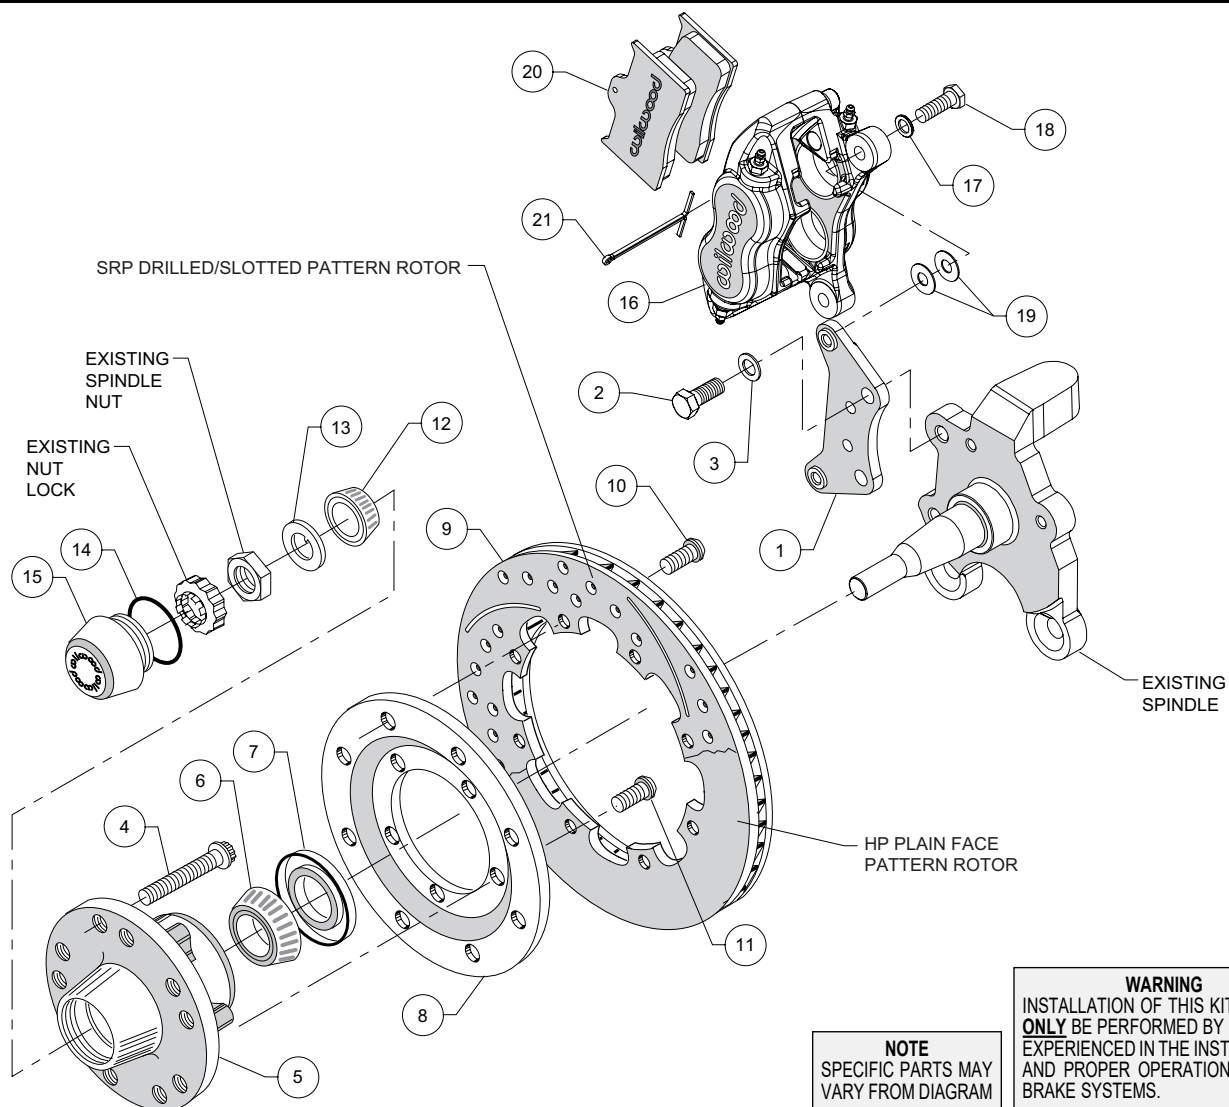
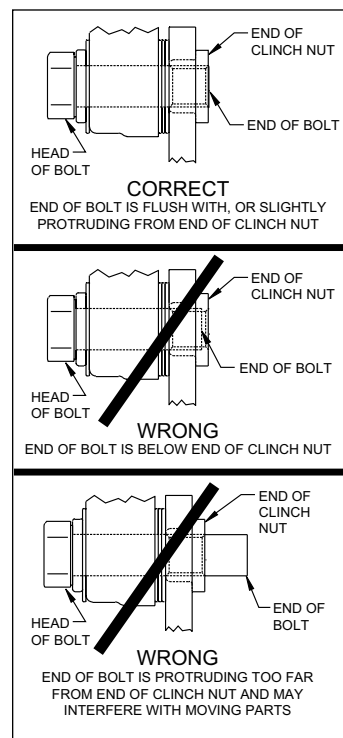

Figure 1. Typical Installation Configuration
Figure 3. Clinch Nut Engagement Diagram
•**NOTE:** Numbers in parenthesis refer to the parts list on the preceding page and Figure 1.
•**CAUTION:** All mounting bolts must fully engage clinch nuts. Be sure to check that all bolts are either flush or protruding through flanged side of clinch nut after shimming, Figure 3.
•Align caliper mounting bracket (1) with the corresponding holes, to the face of the spindle and attach using bolts (2) and washers (3), as shown in Figure 1 and Photo 1. Temporarily tighten the mounting bolts. Ensure that the flanged heads of the clinch nuts in the bracket are facing outboard, Photo 1. **NOTE:** The bracket must fit squarely against the mounting points on the spindle. Inspect for interference from casting irregularities, machining ridges, burrs, etc. Remove bolts one at a time, apply red *Loctite*® 271 to threads, and torque to 77 ft-lb.
•Install wheel studs (4) into the hub (5), Photo 2. Torque to 77 ft-lb. **NOTE:** There are two five lug patterns in the hub (5 x 4.50 and 5 x 4.75). Ensure the correct hub stud pattern is being used to fit the wheel application.
•Pack the large inner bearing cone (6) with high temperature disc brake bearing grease (available from your local auto parts store) and install into the backside of the hub (5), Photo 3.
•Install the grease seal (7) by pressing into the backside of the hub (5), flush with the end of the hub, Photo 3.
- Orient the rotor (9) and the rotor adapter (8) as shown in Figure 1 and Photo 4. Attach the rotor to the adapter using bolts (10). Using an alternating sequence, apply red *Loctite*® 271 to the threads, and torque to 25 ft-lb.
- Mount the adapter/rotor assembly (8/9) to the hub (5) using bolts (11), as shown in Figure 1 and Photo 5. Using an alternating sequence, apply red *Loctite*® 271 to the threads, and torque to 45 ft-lb.
- Pack the small outer bearing cone (12) with high temperature disc brake bearing grease and install into hub (5). Slide the hub/rotor assembly onto the spindle. Secure using spindle washer (13) and OEM spindle nut, Photo 6. Adjust bearings per OEM specifications. Install saved OEM nut lock (if any) and a new cotter pin (not included).
- Screw dust cap (15) into hub (5), Photo 7. Friction created by the o-ring (14) on the dust cap keeps it from unscrewing. **NOTE:** *The O.D. of the existing OEM spindle washer may be larger than the I.D. of the dust cap not allowing it to seat against the hub face. Therefore, use the spindle washer (13) supplied with the kit instead of the OEM washer.*
- NOTE:** Please reference the caution statement at the beginning of the assembly instructions. Mount the caliper (16) onto the caliper mounting bracket (1) using bolts (18) and washers (17), as shown in Figure 1. Initially place two .035" thick shims (19) on each bolt between the caliper and the bracket, Photo 8. Temporarily tighten the mounting bolts and view the rotor (9) through the top opening of the caliper. The rotor should be centered in the caliper, Photo 9. If not, adjust by adding or subtracting shims between the bracket and the caliper. Always use the same amount of shims on each of the two mounting bolts. **NOTE:** *The end of each bolt must be flush with or slightly protruding from the head of the clinch nut, as shown in Figure 3. If necessary place spare shims between washer (17) and caliper mounting ear to achieve the proper clinch nut engagement. Once the caliper alignment and clinch nut engagement are correct, remove the bolts one at a time, apply red *Loctite*® 271 to bolt threads, and torque to 40 ft-lb.*